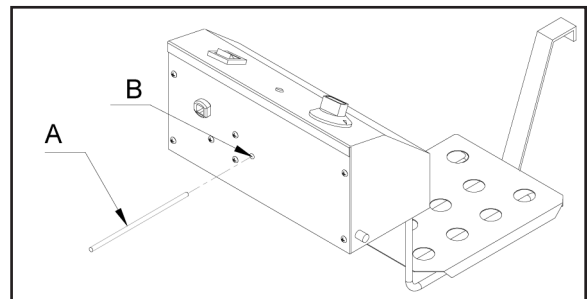

Fig. 10-2
**NOTE:** If the temperature of the fat should get too high or if the elements are left “ON” in the raised position, or whilst cleaning, the “HI LIMIT” control will turn off the unit. If this occurs, turn the thermostat to “OFF” position, allow the fryer to cool and press the reset button on the back of the control box. Normal operation can be resumed. Fig. 10-2